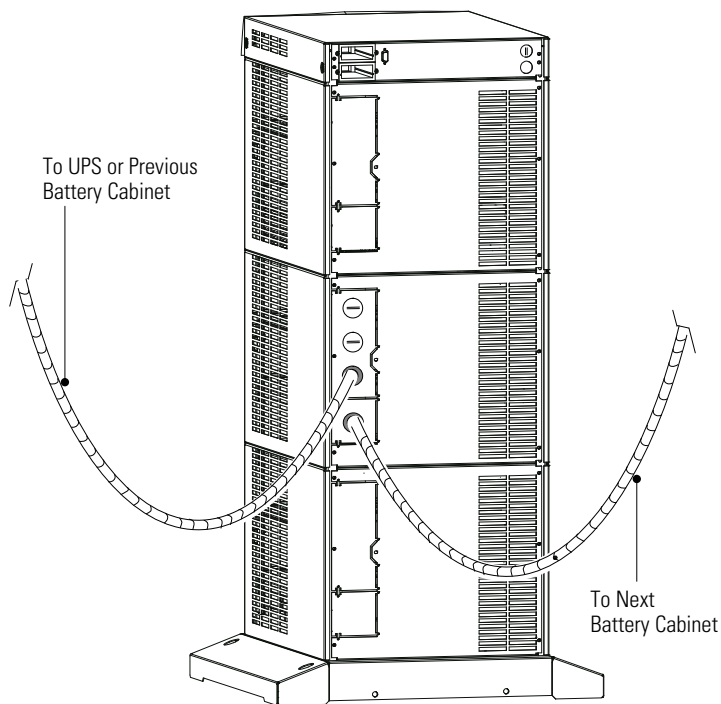

Figure 47. Connecting Additional Battery Cabinets
18. If an additional battery cabinet will be connected to the first, in a daisy-chain configuration, use another external battery cabinet cable assembly for the connections between the battery cabinets (see Figure 47).